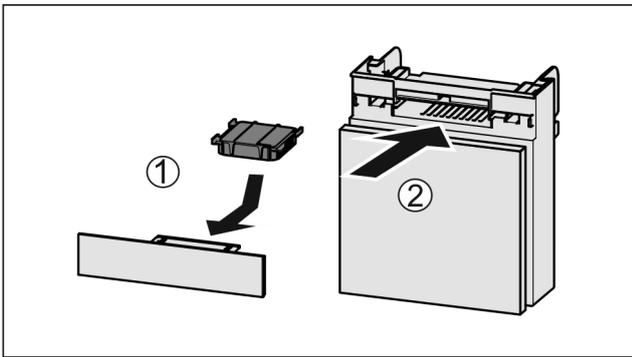

Fig. 70
- ▶ Insert the carbon filter as shown in the diagram Fig. 70 (1).
- ▶ Push the compartment in Fig. 70 (2).